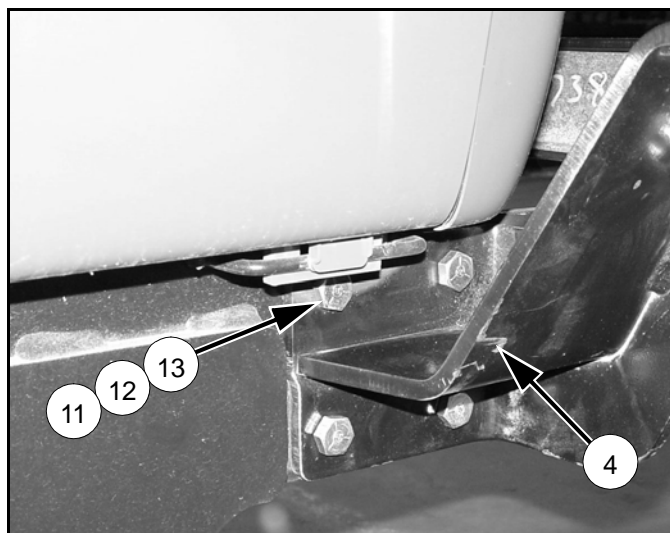

Figure 4 Right Front Mount Installed
1. Install right front mount (4) to front of tractor using four cap screws (13), flat washers (11), and hex nuts (12).
2. Position cap screw on the outside of mount as shown in Figure 4 with flat washers and hex nuts on the inside of tractor frame.
3. Repeat steps 1 and 2 for installing left mount (5).